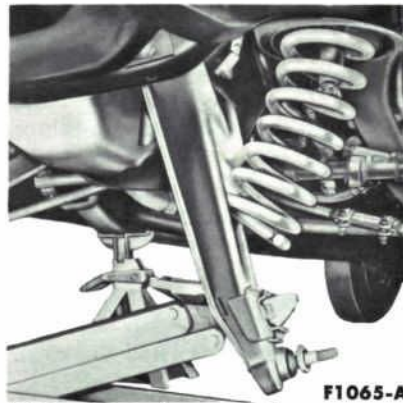

FIG. 88 – Lowering or Raising Lower Arm
4. Remove the nut from the lower stud, and slowly lower the arm until the spring is fully extended (Fig. 88). Apply foot pressure to the lower suspension arm to push the arm inward so that the spring and insulator assembly may be lifted from the car (Fig. 89).